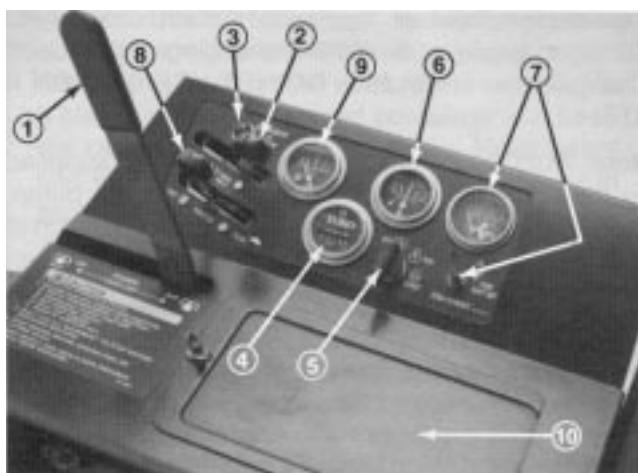

Figure 20
**PTO Lever** (Fig. 20) — The PTO lever has two positions: ON (engage) and OFF (disengage). Slowly push PTO lever fully forward to ON position to start the implement or cutting unit blades. Slowly, pull lever backward to OFF position to stop implement operation. The only time PTO lever should be in the ON position is when implement or cutting unit is down in operating position.
**Hour Meter** (Fig. 20) — The hour meter registers accumulated hours of engine operation. Use the hour meter to determine intervals for service maintenance and lubrication.
**Fuel Gauge** (Fig. 20) — Indicates quantity of fuel remaining in fuel tank.
**Oil Pressure Warning Light** (Fig. 20) — The oil pressure warning light glows and a buzzer sounds when oil pressure in engine drops below a safe level. If low oil pressure ever occurs, stop engine and determine the cause. Repair the damage before starting the engine again.
**Ammeter** (Fig. 20) – Ammeter shows charge rate of the battery by the alternator. When engine is running, there usually is a slight charge, unless engine is idling slowly. Needle points to 0 when battery is fully charged. By contrast, alternator is not charging the battery when needle points to (-) negative side of ammeter. If this happens, repair the charging system to prevent discharge of the battery.
**Temperature Switch/Gauge and Reset Button** (Fig. 20) – The temperature switch/gauge registers the temperature of the coolant in the cooling system. If temperature of coolant gets too high the engine will shut off automatically. When this happens, rotate ignition key to OFF. Automatic shut-off of the engine usually results from debris on front of screen or radiator, which reduces air flow. After cleaning outside of screen and radiator or repairing some other damage, press the reset button and start the engine.
**Ignition Switch** (Fig. 20) – The key switch, which is used to start and stop the engine, has three position: OFF, RUN, and START. Rotate key clockwise to the START position to engage starter motor. When engine starts, release key and it will move automatically to the ON position. To shut engine off, rotate key counterclockwise to the OFF position.
**Choke** (Fig. 20) – To start a cold engine, close carburetor choke by moving choke control fully forward. After engine starts, regulate choke to keep engine running smoothly. As soon as possible, open the choke by pulling it backward.
**Throttle Control** (Fig. 20) – Throttle is used to operate engine at various speeds. Moving throttle forward increases engine speed—FAST; backward decreases engine speed—SLOW. The throttle regulates the speed of the cutter blades or other implement components and, in conjunction with traction pedal, controls ground speed of the traction unit.
1. Ensure parking brake is set, PTO lever is in OFF position (Fig. 20), and lift lever is in TRANSPORT or FLOAT position (Fig. 19). Remove foot from traction pedal and insure it is in neutral.
2. Move throttle control (Fig. 20) to 1/4–1/3 open position.
3. To start engine, move choke lever (Fig. 20) fully forward.
4. Insert key into ignition switch (Fig. 20) and rotate it clockwise to START position. Hold key in START position for a few seconds to energize ignition system. Release key immediately when engine starts and regulate choke to keep engine running smoothly.